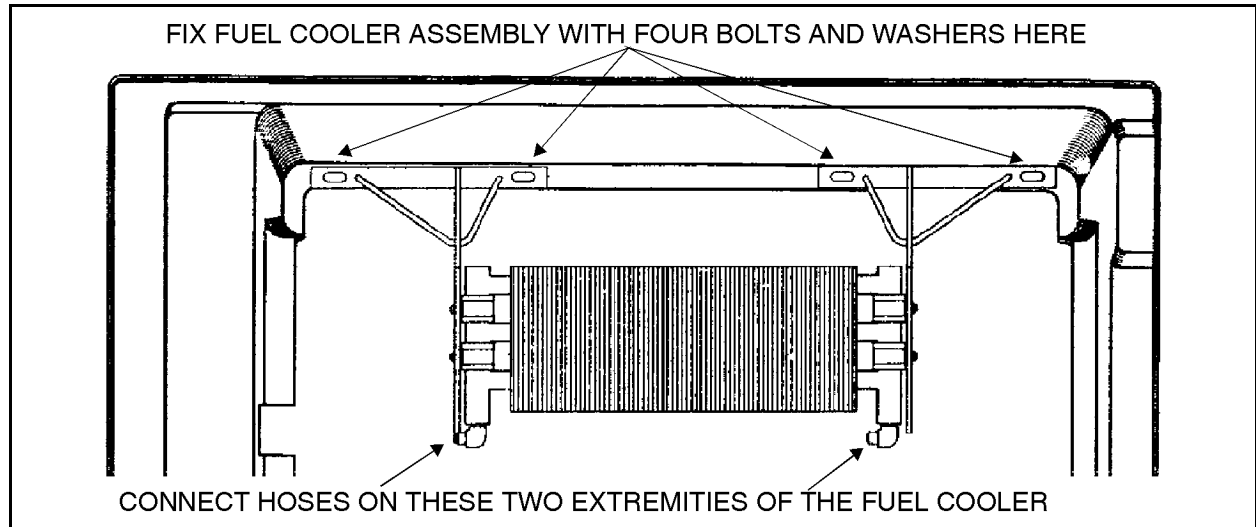

FIGURE 9: FUEL COOLER HOSES ROUTING
- Using the bolts, washers and screws removed on step **C.1** (except the four bolts and washers that will be used to fasten the fuel collar (Fig. 9)), install sealing frame. On H3-41 or H3-45, fasten door retaining strap with two new rivets 3/16" X 3/8" (Prévost #504249).
10. Install the fuel cooler assembly (Prévost #051925), affix it with the four bolts and washers (Fig. 9).